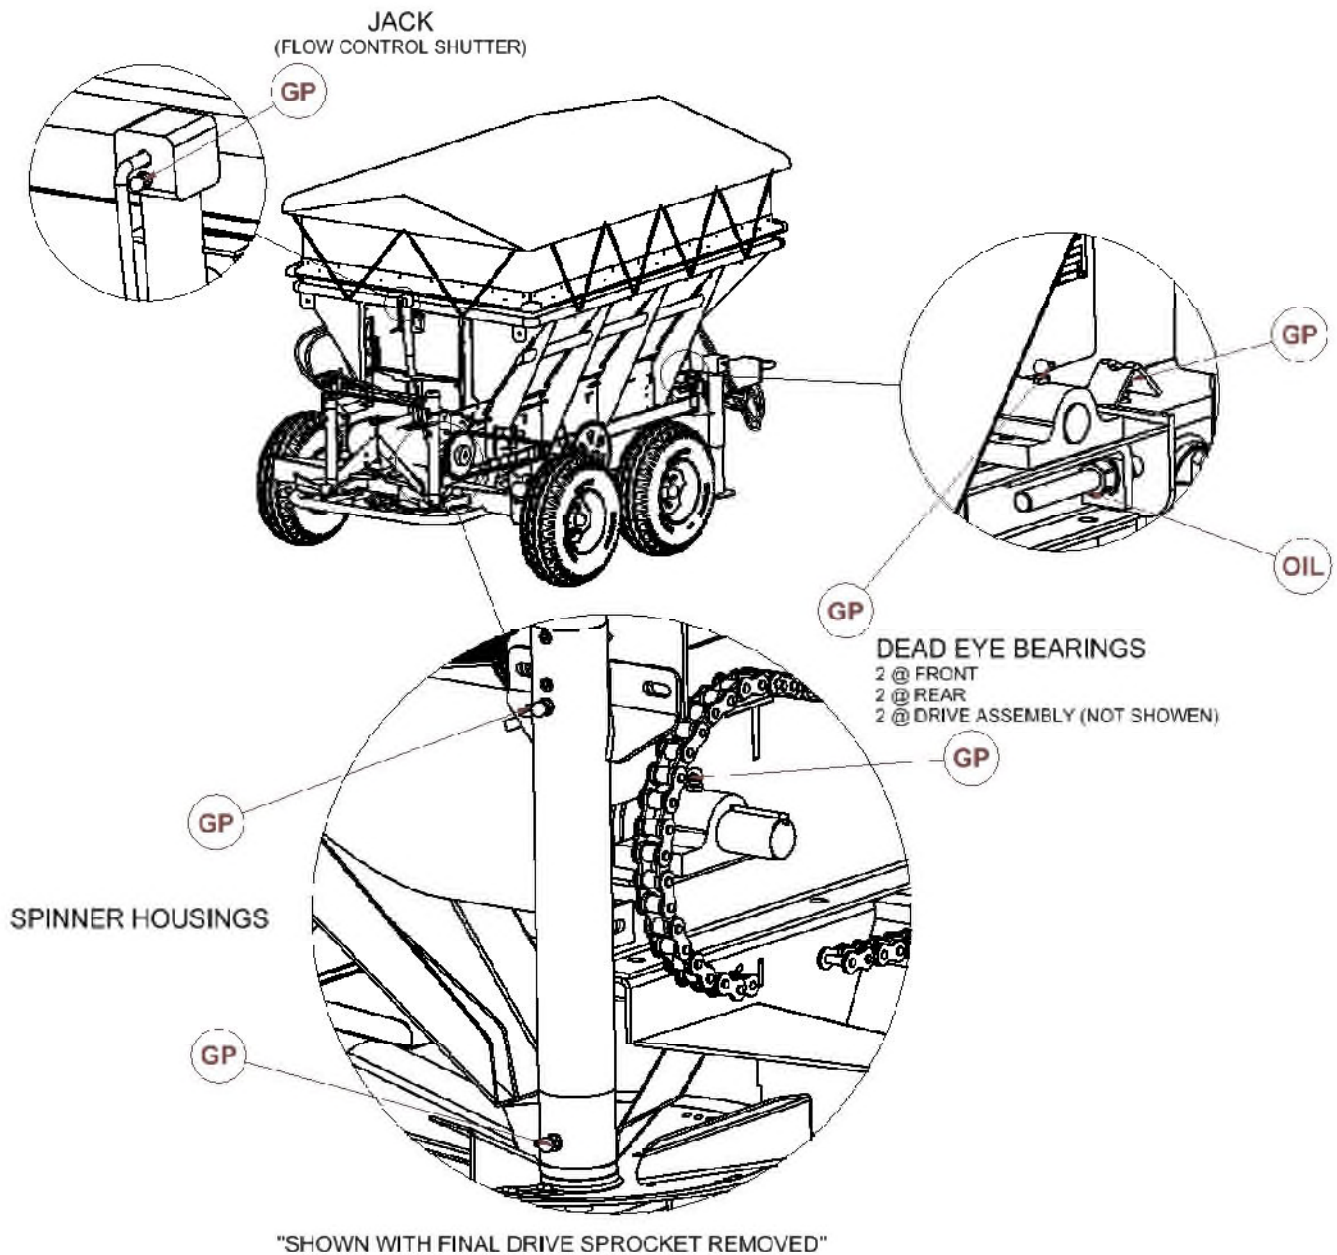

Figure 9 – Grease Points (GP)
- Figure 9, 10 and 11 indicates the Grease Points (GP) on the spreader. Oil is also recommended in a few area